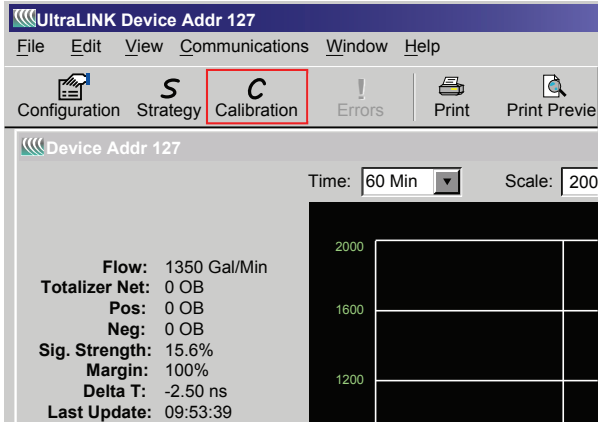

Fig. 13 Data display screen
- 2) From the Tool Bar select Calibration. See Fig. 13.